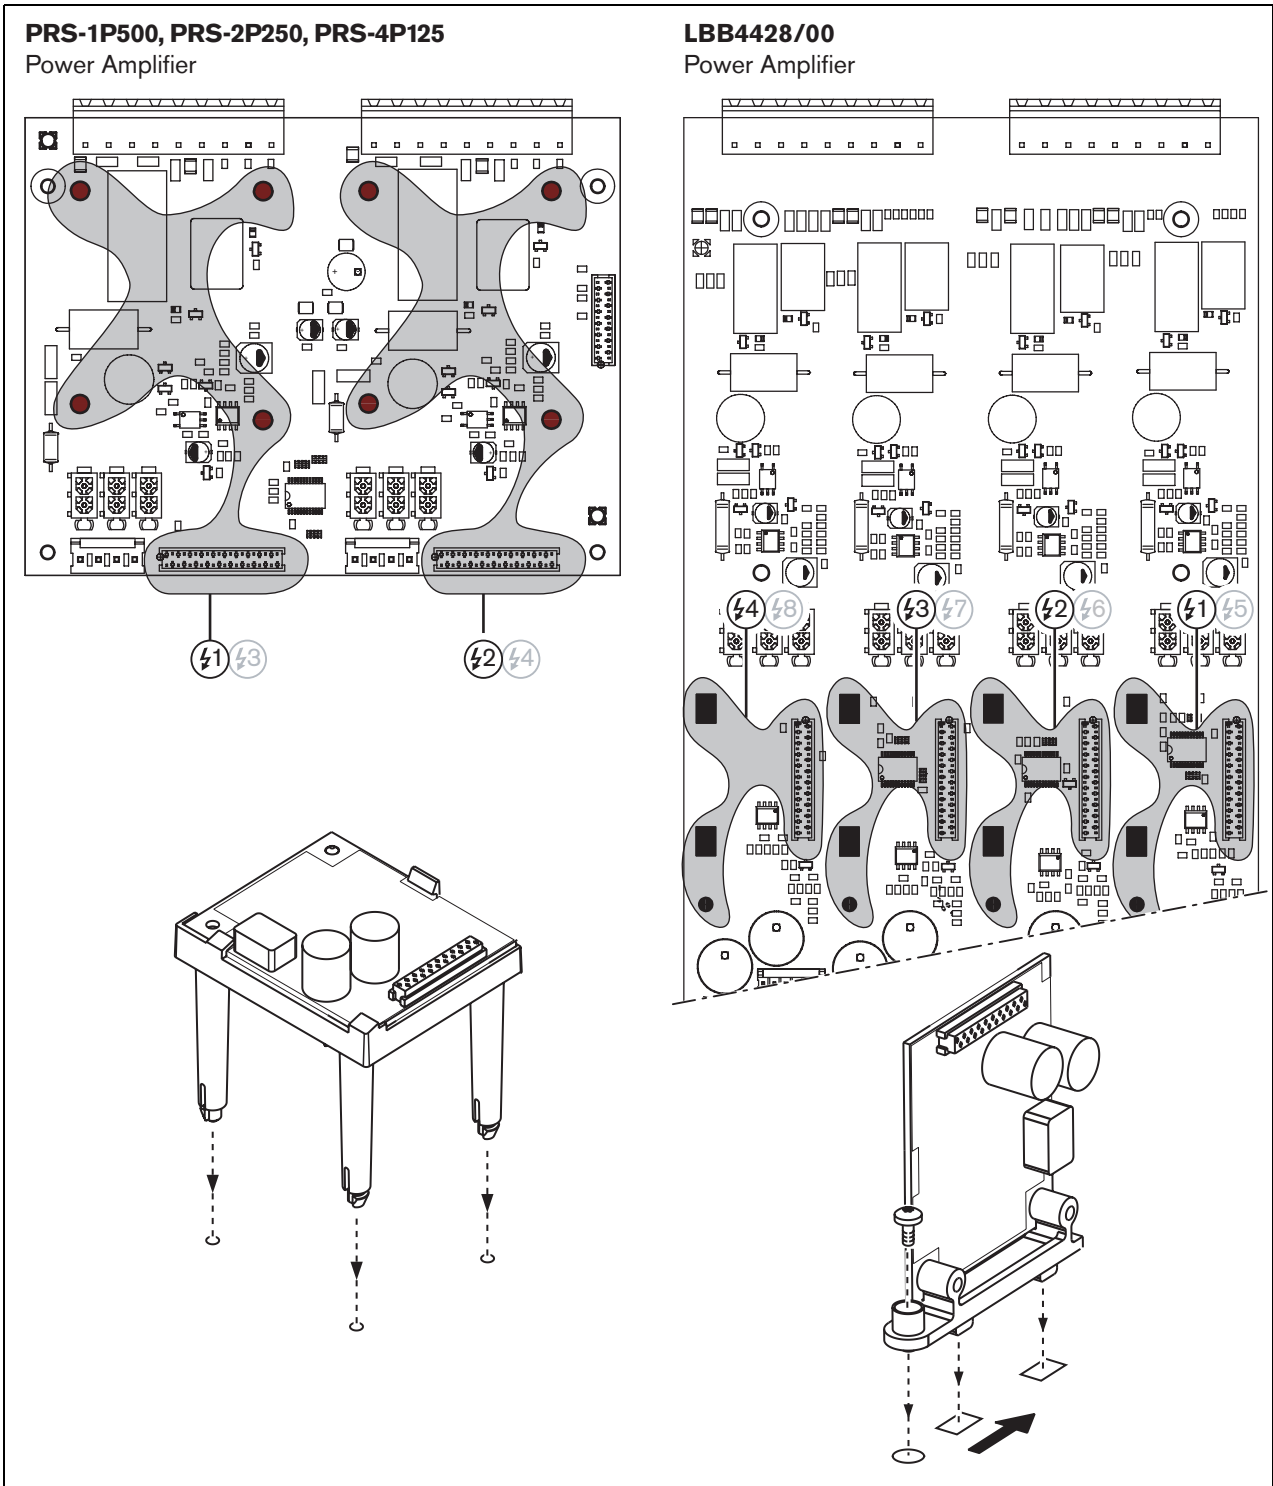

figure 11.4: Supervision-master installation
- 1 Remove the lid from the power amplifier and locate the output board (see figure 11.4).